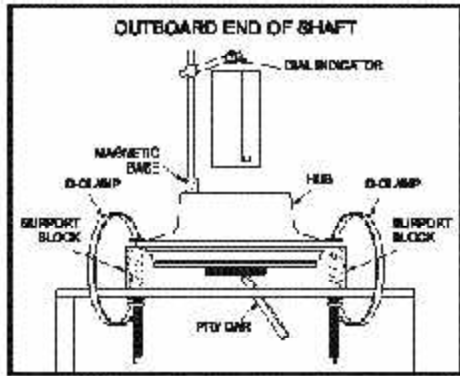

Figure 6.4.1—Setting Axial Bearing Clearance
17. Support hub and affix to work table with the shaft not touching the table; reference Figure 6.4.1 (page 16).
18. Support hub and affix to work table with the shaft not touching the table; reference Figure 6.4.1, next page.
1. Support housing to allow the shaft to rotate freely; reference Figure 6.4.1.
2. Affix the hub to the support table with C-Clamps or bolting to table; reference Figure 6.4.1.
5. Affix the magnetic base of the dial indicator to a flat area of the housing; reference Figure 6.4.1.
8. With a pry bar, push the inboard end of the shaft up; reference Figure 6.4.1.